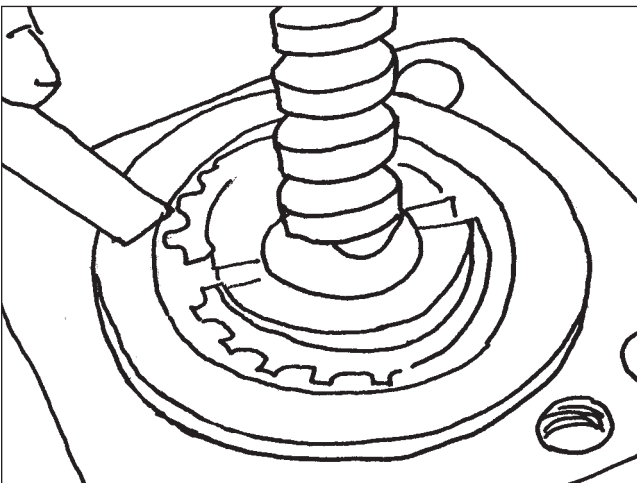

Figure 66
- Loosen the shaft retaining nut using Tool #3563982 (Figure 66).